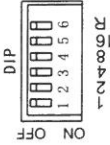

Fig. 3
- (1) DIP switches: SW1~SW5 for programs selection, please see Attached Table (1=ON, 0=OFF). SW6 for remote controller; (see fig. 3)
- (2) Calculation of DIP address code:
- (3) Using of Wireless Remote Controller: